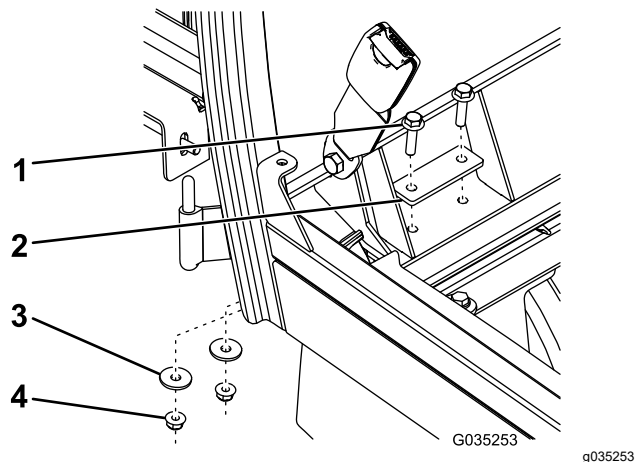

Figure 13
- Secure the back of the cab frame to the left and right supports using 4 flange-head bolts (5/16 x 1-1/4 inches), 2 support plates, 4 flat washers, and 4 flange nuts (5/16 inch) as shown in Figure 13.